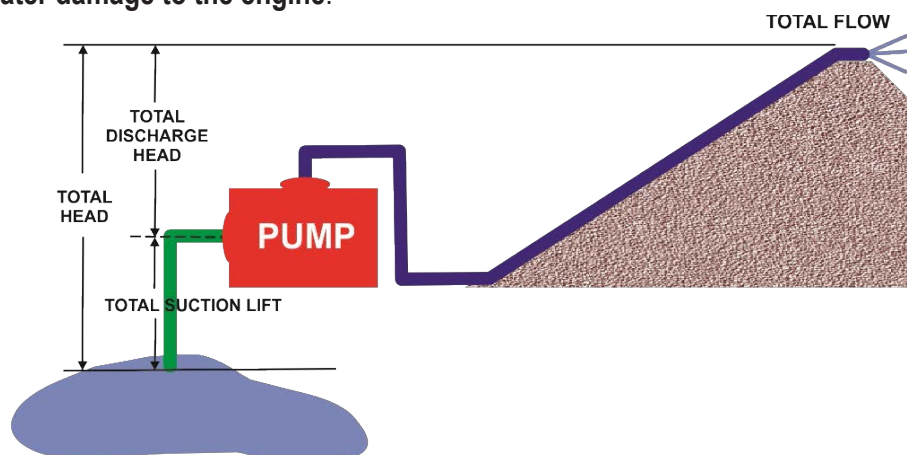

Figure 7. Pump Setup
1. Place the pump on a solid, level operating surface as close as possible to the water source. The most critical factor for successful pump operation is the total suction lift, which should not exceed 25 feet (7.6 meters) at sea level. See Figure 7.